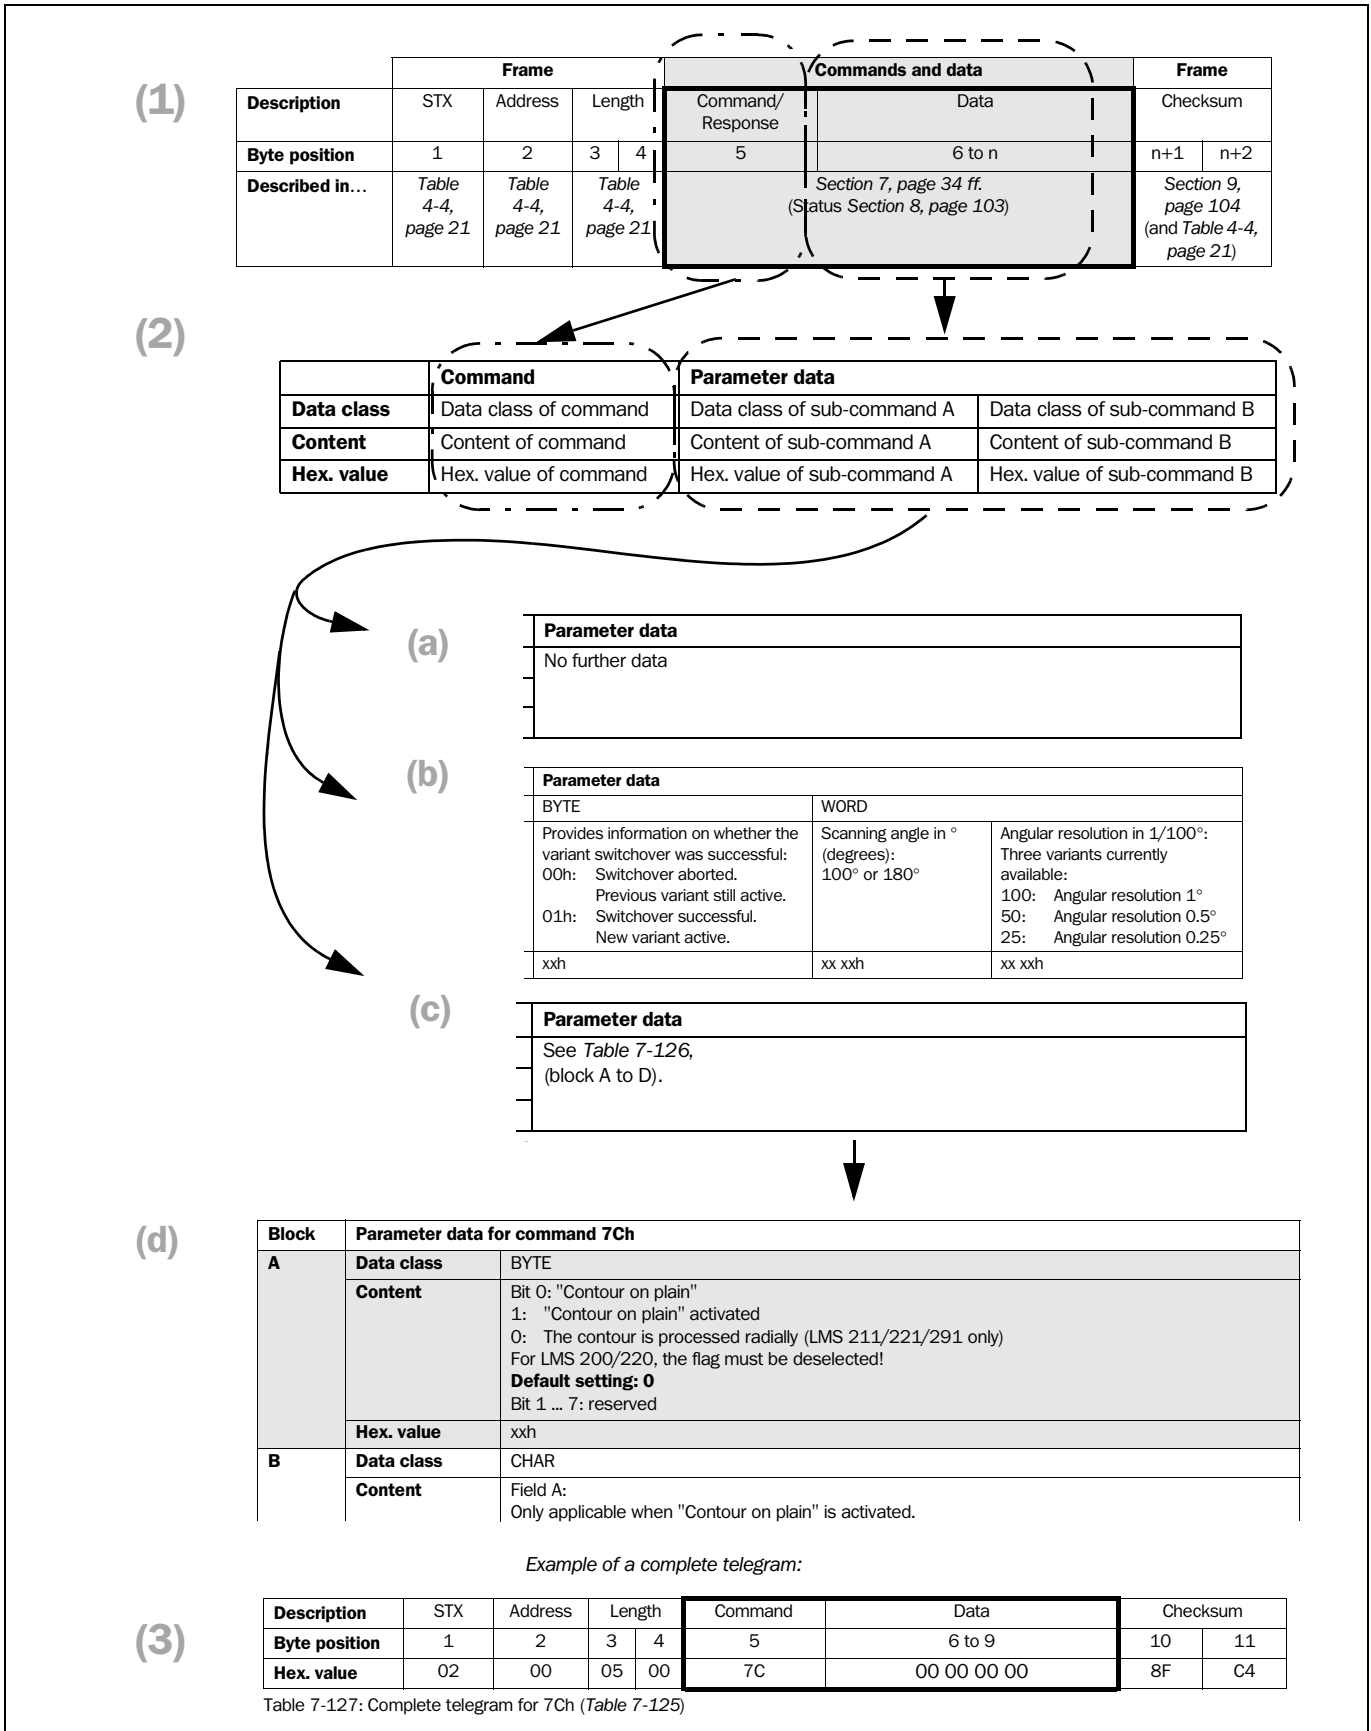

Fig. 5-1: Explanation of the structure of the telegram listing (for legend, see next page)
Legend for Fig. 5-1, Page 27:**(1) Entire telegram structure:**